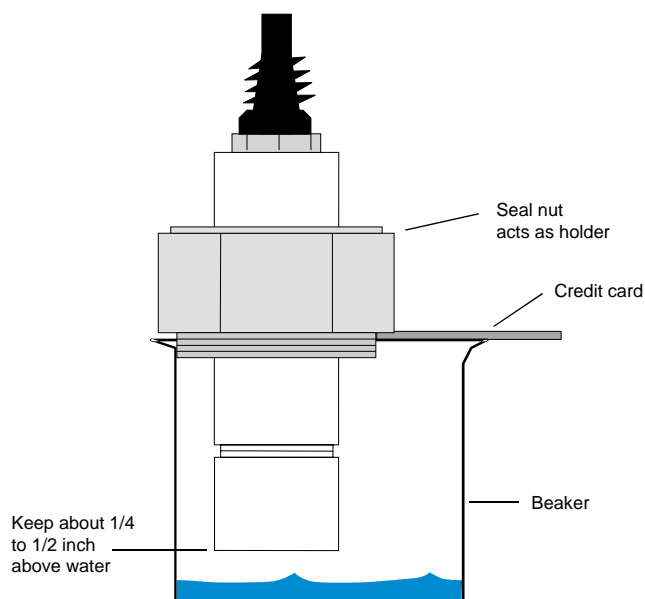

Figure 25 D.O. sensor calibration
2. Dry the tip carefully with a tissue, making sure there are no water drops on the membrane, and then take the sensor and suspend it above water. See **Figure 25**.